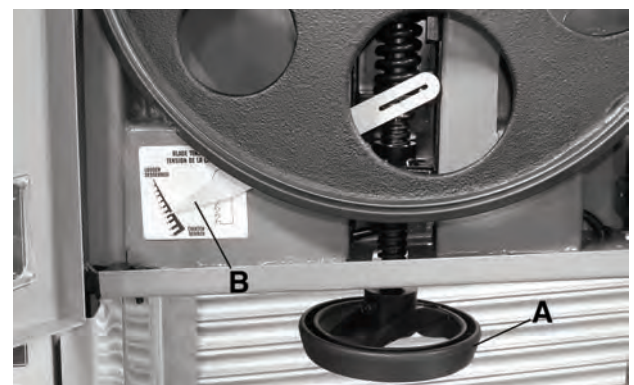

FIGURE 12
1. Adjust the blade tension by turning handwheel (A) Fig.12, use the blade tension indicator (B) Fig.12 located on the inside of the upper blade cover as reference. The higher the number, the higher the blade tension. Next adjust blade tracking if the blade width is different.